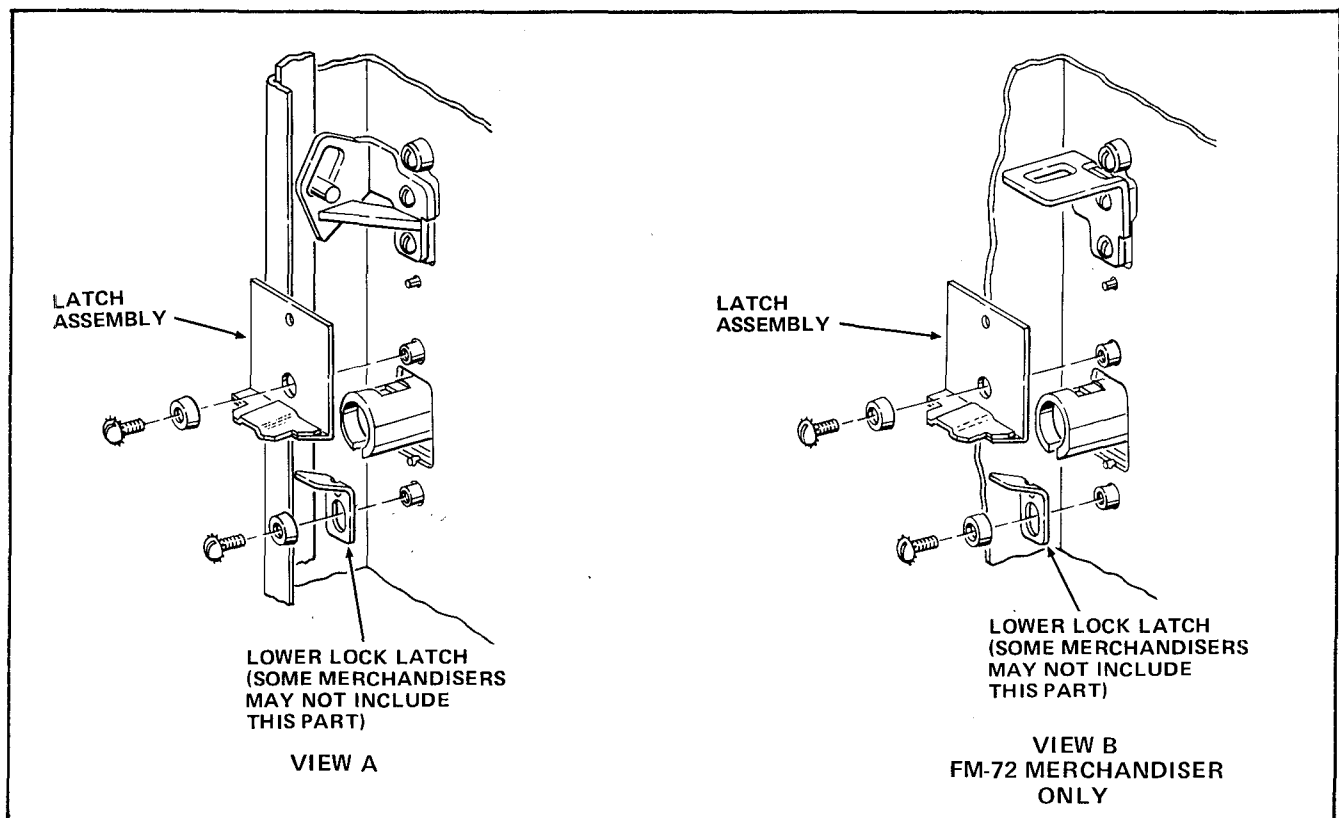

FIGURE 2
3. Remove the 2 Screws/Lockwasher and the Cup Spacers which attach the upper Latch Assembly, the Lower Latch Assembly, and the Lift Handle Lock Lever to the Cabinet Door or Monetary Compartment and remove the upper Latch Assembly and Lower Latch Assembly. See Figure 2; view "A" for Merchandisers other than the FM-72 or view "B" for the FM-72 Merchandiser.